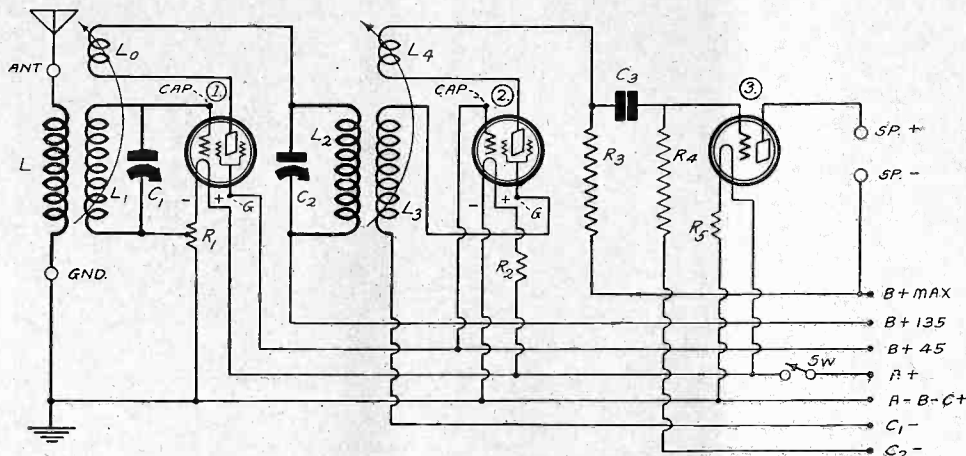

FIG. 713
(1)—Fig. 713 shows this circuit. The primary of the inter-tube coupler is tuned in order to get a high impedance in the plate circuit of the screen grid amplifier.